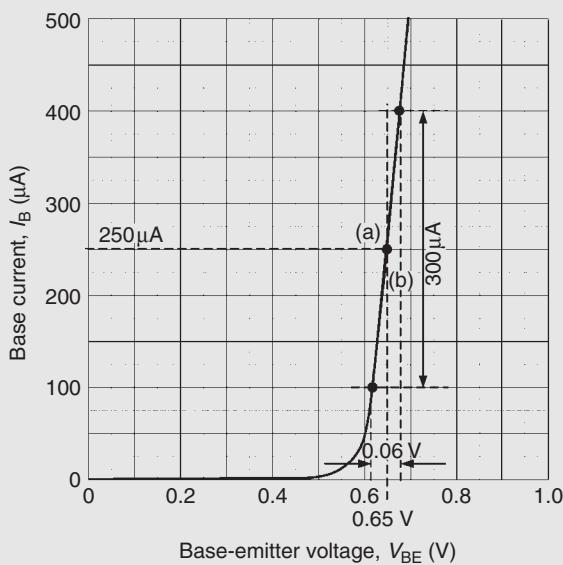

Figure 12.13
Problem 3. Figure 12.13 shows the input characteristic for an n-p-n silicon transistor. When the base-emitter voltage is 0.65 V, determine (a) the value of base current, (b) the static value of input resistance, and (c) the dynamic value of input resistance.
- From Fig. 12.13, when $V_{BE} = 0.65$ V, **base current, $I_B = 250 \mu A$** (shown as (a) on the graph)
- From Fig. 12.13, V_{BE} changes by 0.06 V when I_B changes by $300 \mu A$ (as shown by (b) on the graph). Hence,